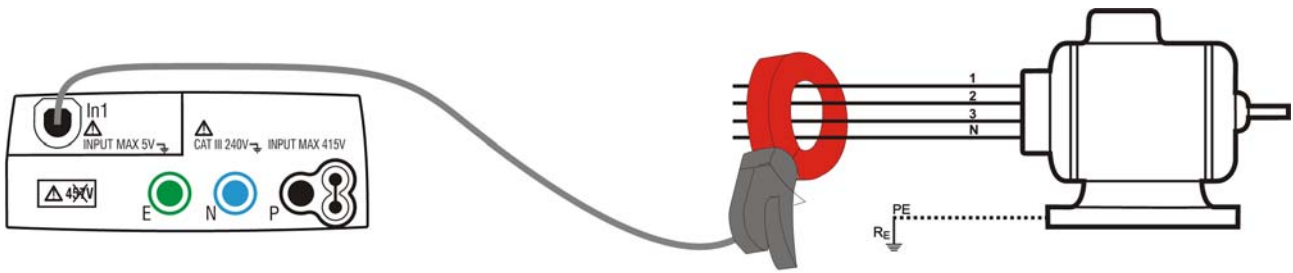
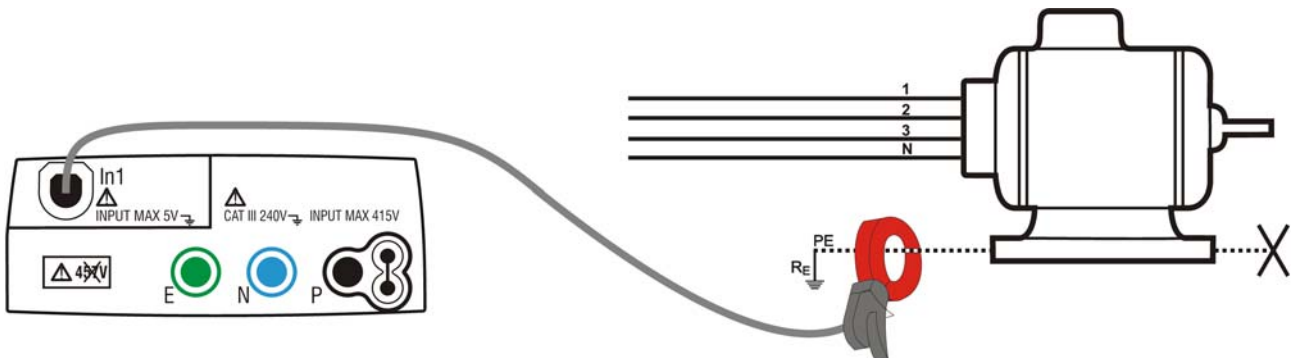

Fig. 29: Indirect measurement of leakage current in three-phase systems
Fig. 30: Direct measurement of leakage current in three-phase systems
- For indirect measurements of the leakage current, connect the external clamp according to Fig. 29. For direct measurements of the leakage current, connect the external clamp according to Fig. 30 and disconnect possible additional earth connections which could influence the test results